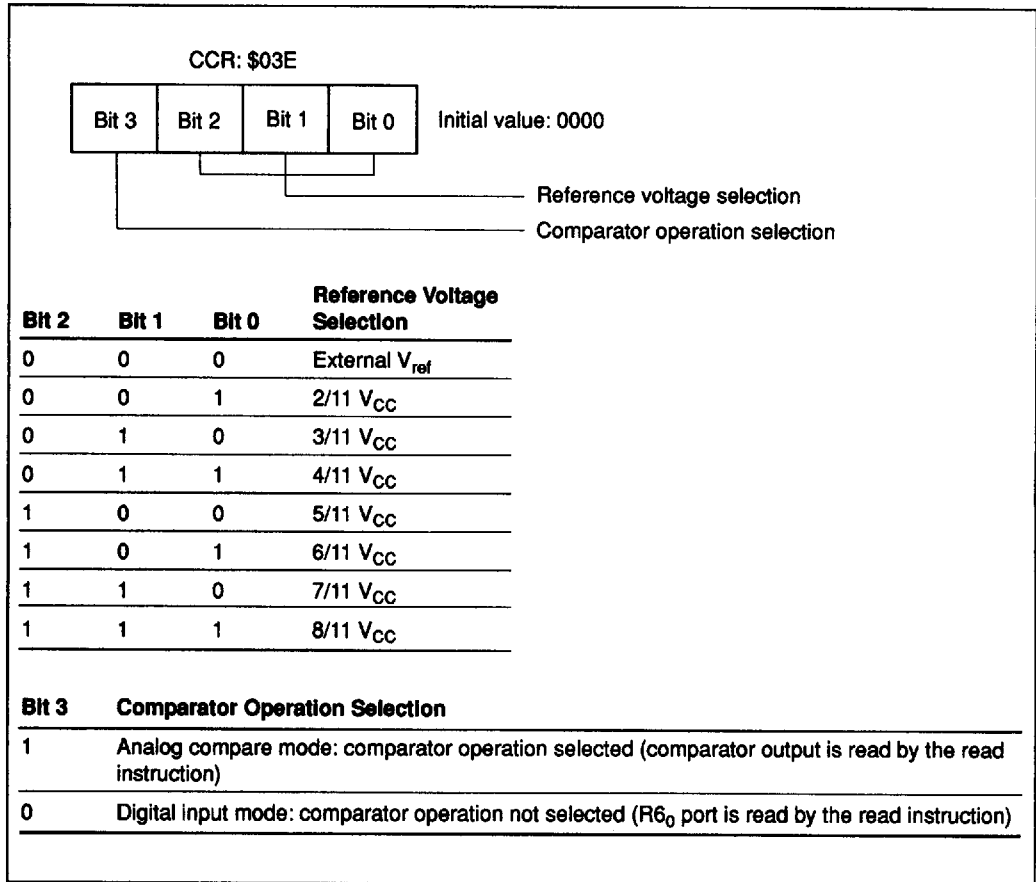

Figure 60 Compare Control Register
**Compare Control Register (CCR: \$03E):** Four-bit write-only register which enables comparator operation and selects internal reference voltage sources (figure 60).